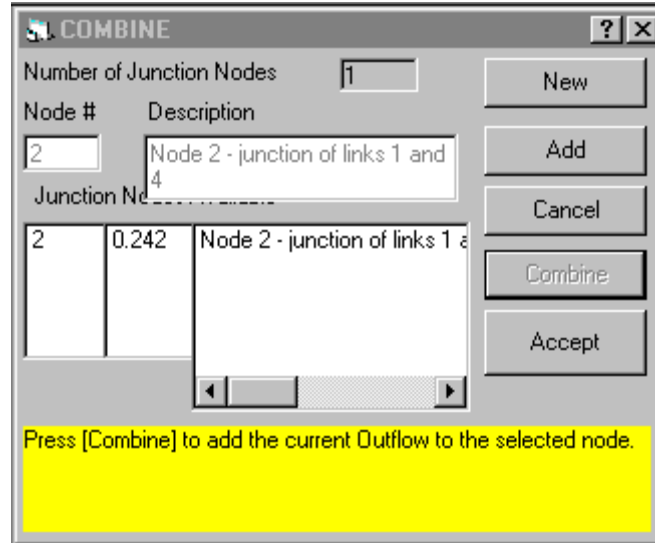

Figure 11-9 – Final display of the Combine dialogue form.
- Press [Combine] to add the current Outflow to the selected node.** Click on the [Combine] button. MIDUSS 98 shows a warning message to advise you that a new file HYD00002.JNC will be created in the currently defined Job directory. Press the [Yes] button to confirm this. The [No] option is provided in case you have made an error. When you press [Yes] the value of 0.242 is entered in the middle column of the list box as shown in Figure 11-9. Also, another message is displayed showing the operation and the node number in the title bar, the name of the file created and the peak flow and volume of the accumulated hydrograph. This is a modal form and you must click on the [OK] button to continue.